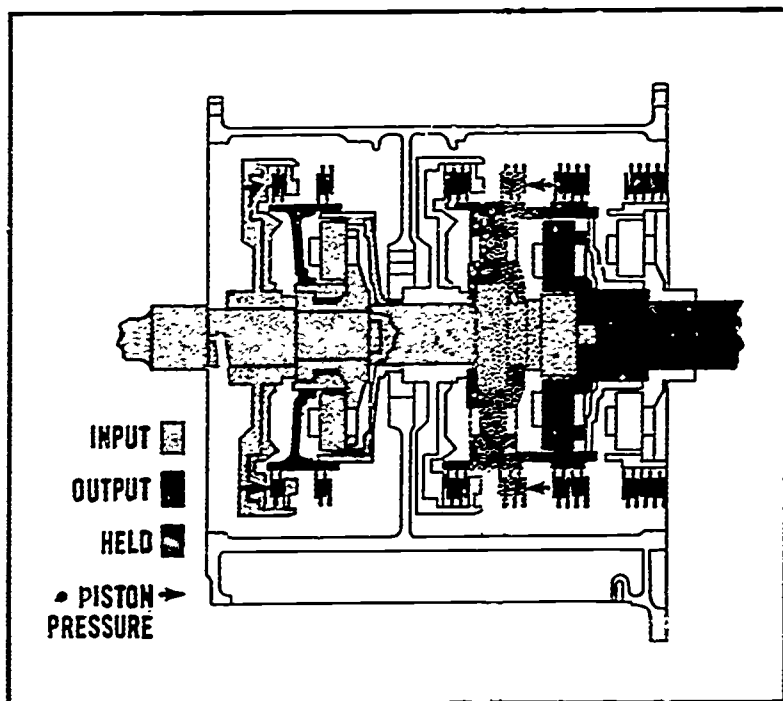

Fig. 5 Third range power flow
The driving member is the intermediate sun gear (70), which receives its torque from the splitter ring gear (30) and turbine shaft (83). Since the ring gear (36) is held and the sun gear (70) is driving, the intermediate planet pinions (71) are forced to walk around the inside of the ring gear (36), forcing the intermediate carrier to rotate in the same direction as the sun gear (70). Since the intermediate carrier is connected to the low range ring gear (40), the carrier and the ring gear rotate together. The low range sun gear (62) and the low range ring gear (40) are rotating in the same direction, but at different speeds. As a result, the output torque leaves through the low range planetary carrier (42), which is splined to the output shaft (51). See Figures 5 and 6.